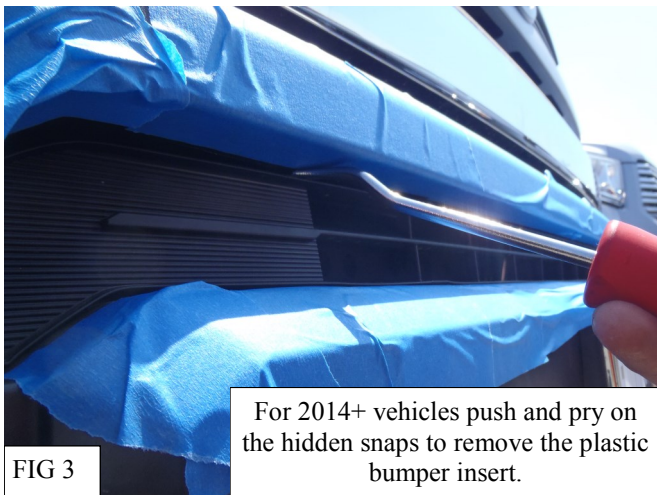

FIG 3
4. For 2014+ vehicles remove the plastic bumper insert by simultaneously prying and pushing on the retaining tabs with a suitable tool from the front of the vehicle. It is recommended to use masking tape to prevent scratching the bumper. FIG 3